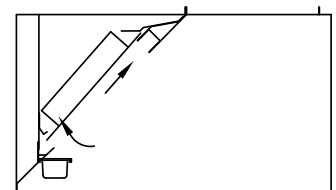

Fig. 23
1. Slide the top edge of the second stage filter into the top rear filter channel; Fig. 23.